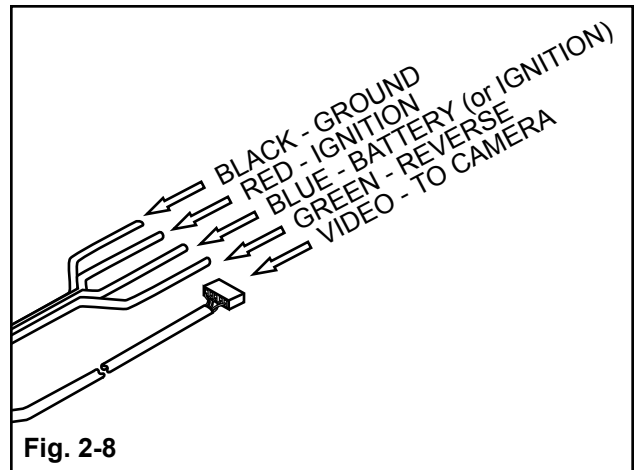

Fig. 2-8
- a) You will need to find a supply wire in your vehicle that provides +12 Volts when the vehicle ignition is in the ACC or ON position (**RED wire on EC mirror harness**). For HomeLink® controls you may choose to use the same switched ignition circuit or a constant +12 Volt circuit (**BLUE wire on EC mirror harness**). If choosing to use a constant +12 Volt circuit, you will need to find a wire supply in your vehicle that provides +12 Volts when the vehicle is in the ON and OFF position. (Fig. 2-8)